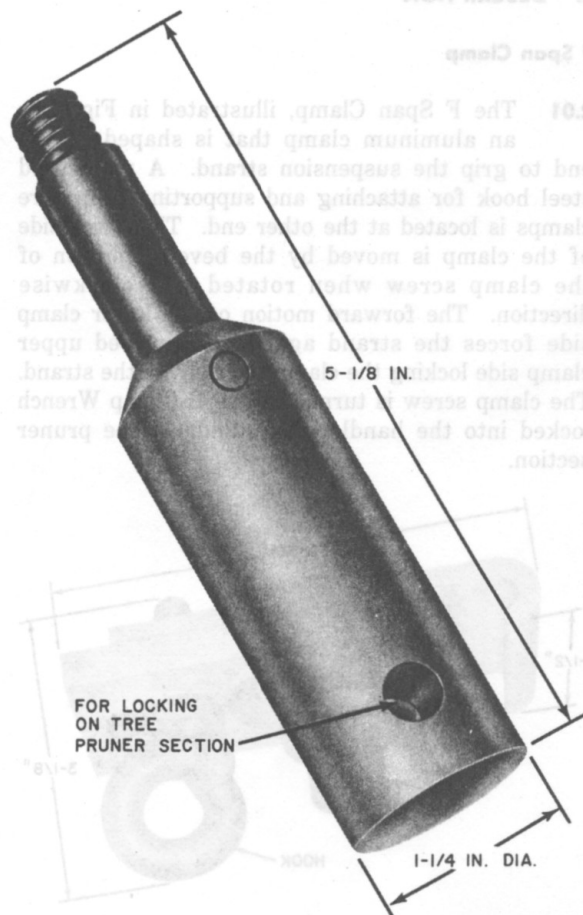

Fig. 2—B Clamp Wrench
2.02 The B Clamp Wrench illustrated in Fig. 2 consists of a machined and threaded steel rod locked and pinned in an aluminum body. The threaded end of the steel rod screws into the clamp screw of the F Span Clamp. The body of the wrench fits into the end of a tree pruner handle section and the recessed hold at the base is used for locking the wrench in the pruner section.